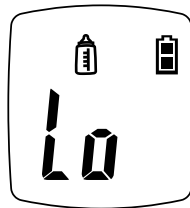

Figure 4.3
- When measurement value is lower than 32.4°F (0.2°C), it displays Lo (Figure 4.3) and gives 4 consecutive beeps and the backlight on the LCD screen will turn red.